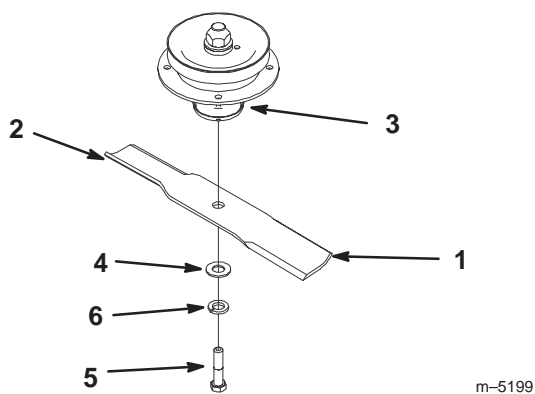
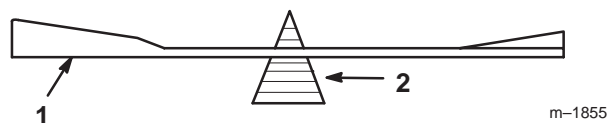

Figure 43
Figure 45
1. Hold the blade end using a rag or thickly-padded glove. Remove the blade bolt, washer, lock washer and blade from the spindle shaft (Fig. 43).
2. Check the balance of the blade by putting it on a blade balancer (Fig. 45). If the blade stays in a horizontal position, the blade is balanced and can be used. If the blade is not balanced, file some metal off the end of the sail area only (Fig. 43). Repeat this procedure until the blade is balanced.
1. Install the blade onto the spindle shaft (Fig. 43).
Important The sail part of the blade must be pointing upward, toward the inside of the mower to ensure proper cutting (Fig. 43).
2. Install the washer, lock washer and blade bolt (Fig. 43). Torque the blade bolt to 85–110 ft-lb (115–140 N•m).